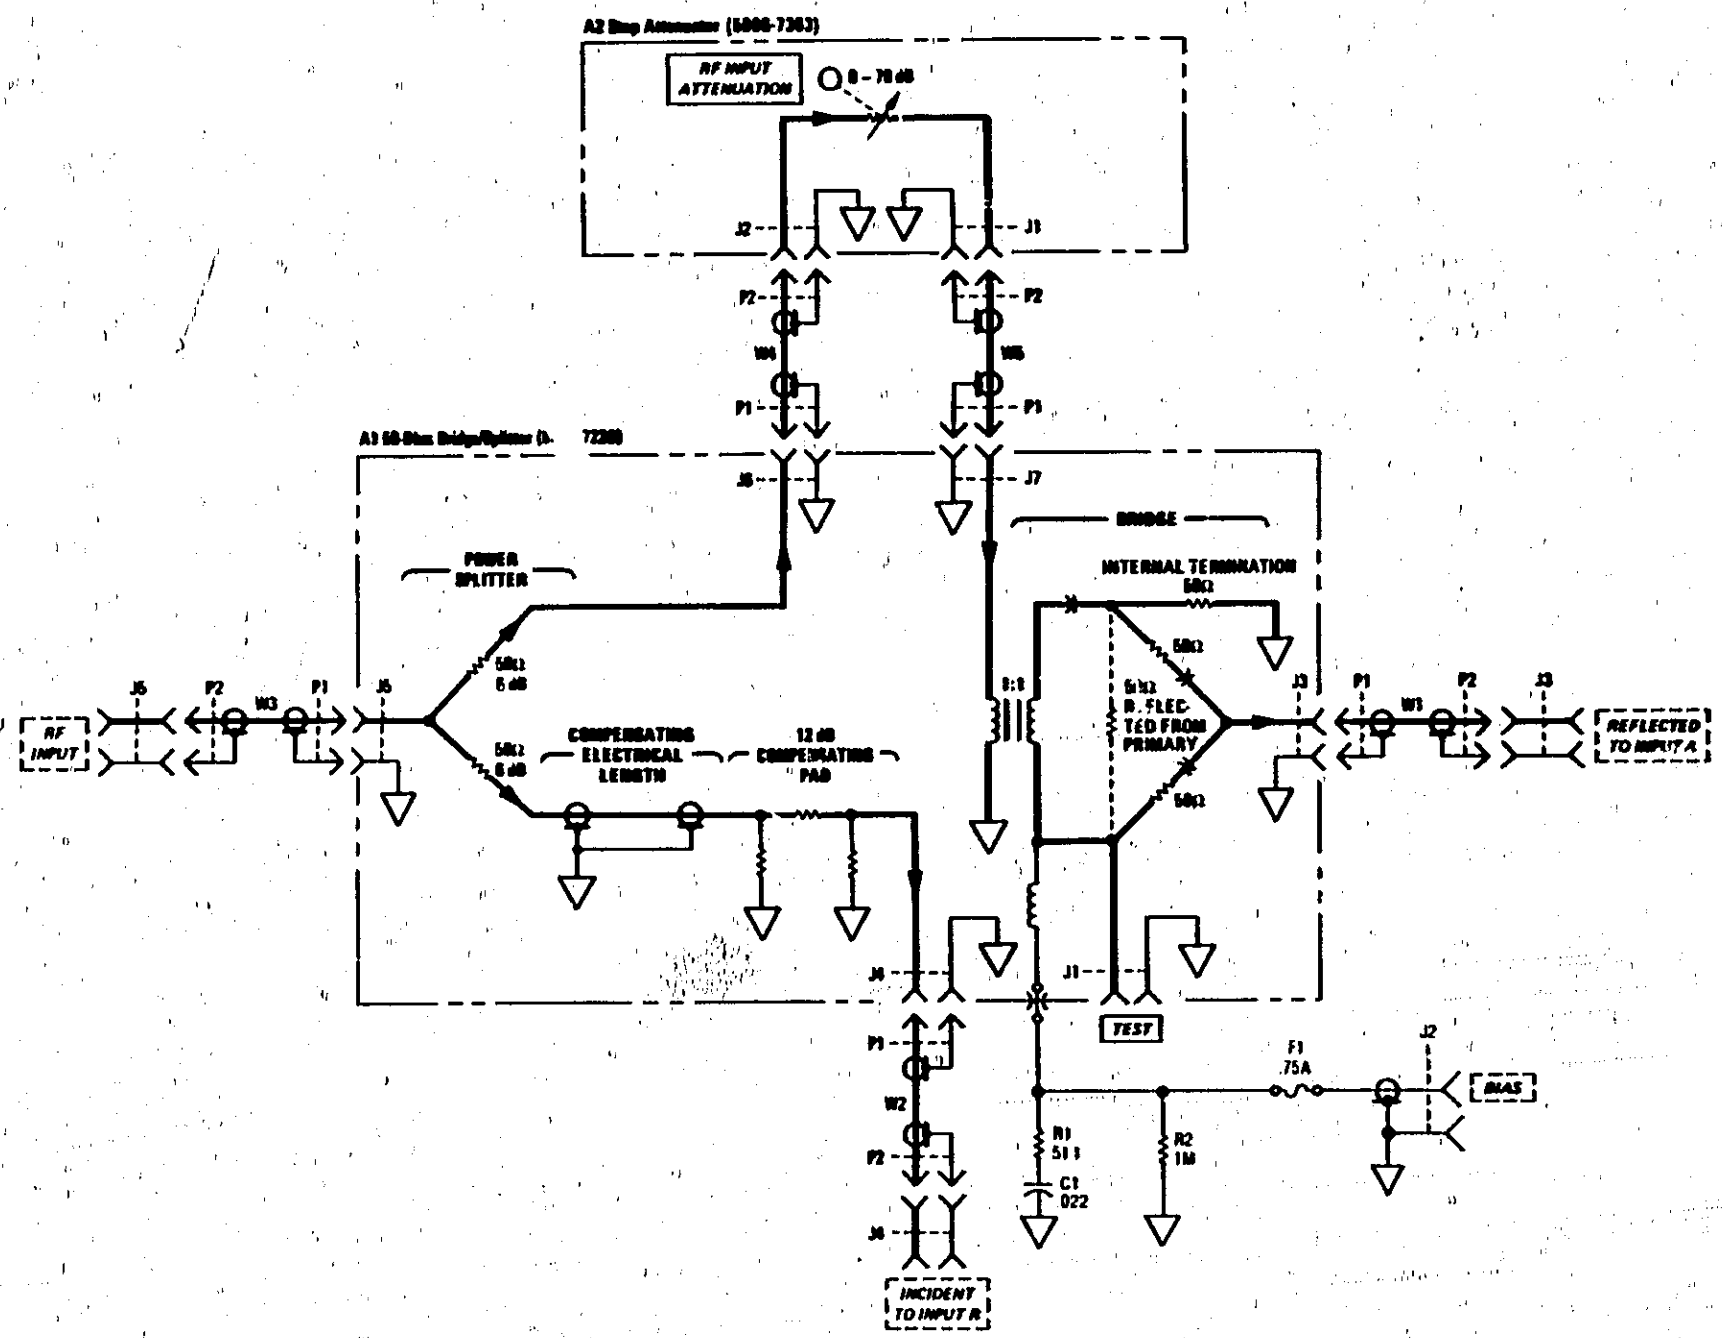

Figure 27. Model 8502A Transmission/Reflection Test Set Equivalent Circuit (CHANGE 4)
▶ **Page 47/48, Figure 27:**
Replace Figure 27 with the Model 8502A Transmission/Reflection Test Set Equivalent Circuit diagram supplied in this change sheet.